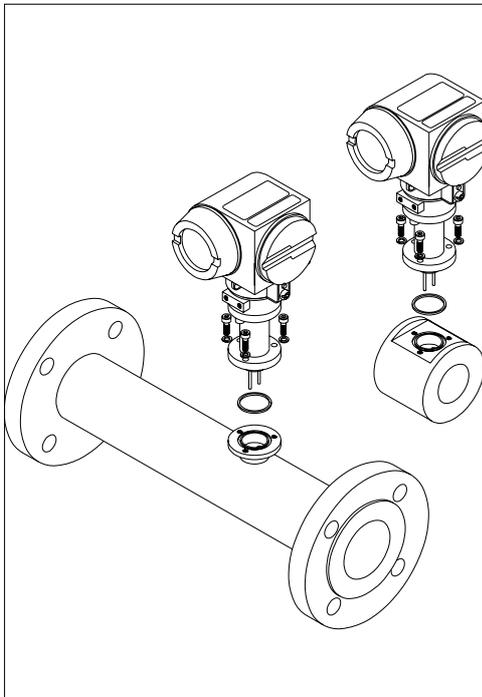

Fig. 44:
- *Wafer/flanged flowcell only* - Remove the flowmeter measuring head retaining screws from the flowcell and carefully withdraw the head from the flowcell taking care not to create any strain on the measuring transducers. (See fig. 44)